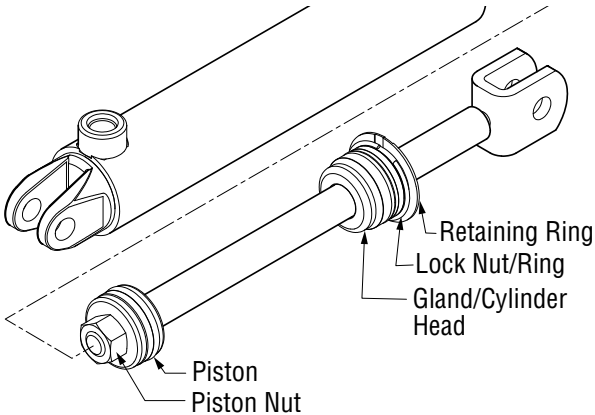

Figure 5-3, Rod Assembly
7. Remove the piston retaining nut and remove the piston. (Figure 5-3)